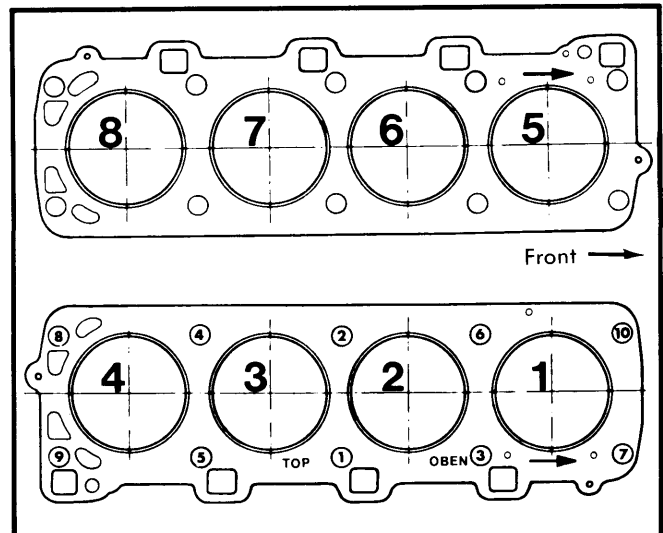

Fig. 1 Cylinder Head Tightening Sequence (Loosen in Reverse Order)
2) Left and right cylinder head gaskets are different. Arrow must face forward and word "TOP/OBEN" must face up. Tighten head in 3 steps according to the sequence shown in Fig. 1. Tighten to final torque and allow to stand at least 30 minutes. Loosen nuts by 1/4 turn, then tighten to final torque.